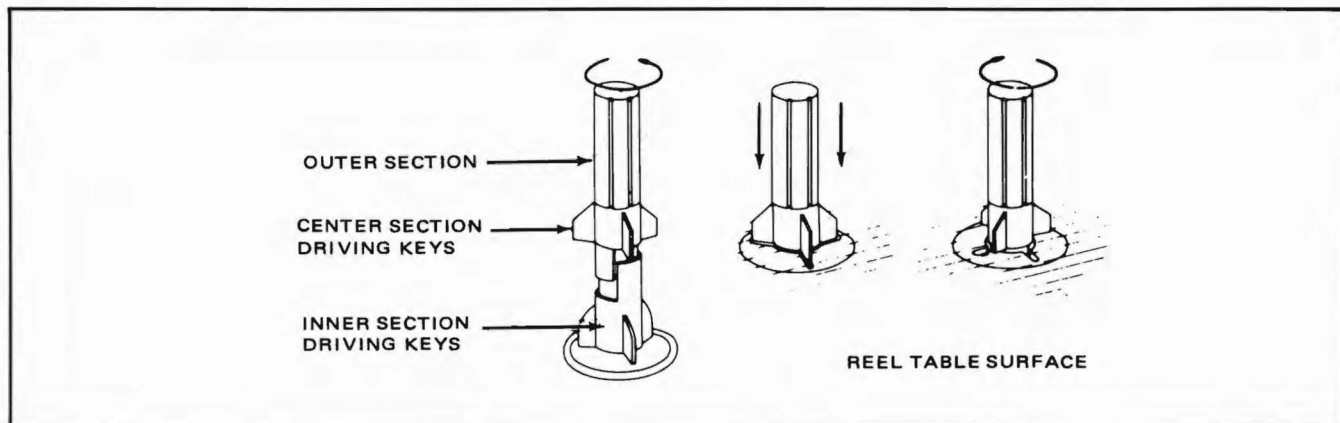

Figure 3-1. Reel Table Spindle
1. Rotate the outer section of the reel-table spindle (see Figure 3-1) fully counterclockwise until the three driving keys in the center section line up with the three driving keys in the inner section.